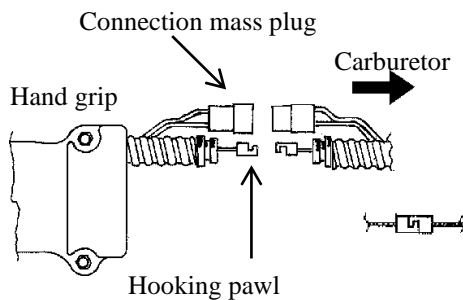

Fig. 8
**Connection of gas control cable with the flexible shaft:** (Fig. 8).